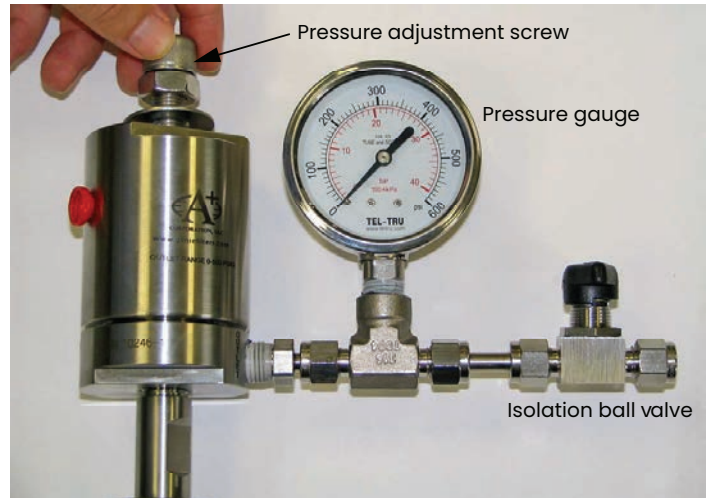

Figure 17: Rotating the pressure adjustment screw
- Rotate the pressure adjustment screw on the pressure regulator fully counterclockwise until it rotates freely. Close the isolation ball valve (see *Figure 17* below).